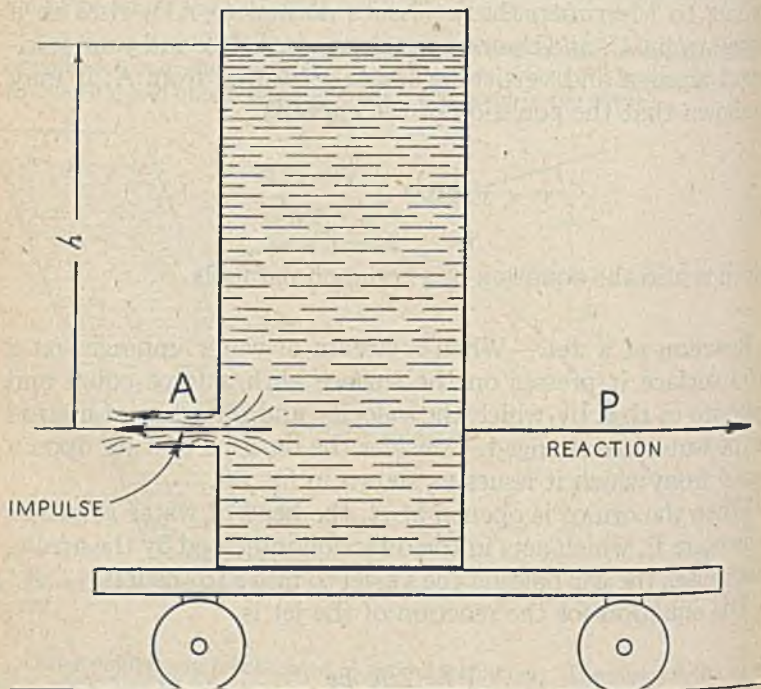

Fig. 40.—Water flowing through orifice illustrating **impulse** and **reaction**.
**Reaction of a Jet.**—When a stream of water impinges on a solid surface it presses on the surface with a force equal and opposite to that by which the velocity and direction of motion of the water are changed. Consider the reaction of a jet upon a vessel from which it issues as shown in fig. 40.